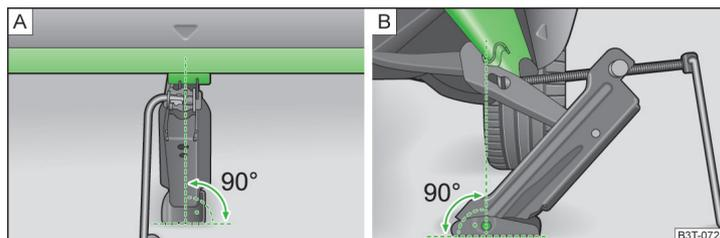

Fig. 143 **Attach lifting jack**
- Offer the jack up so that its claw encloses the web » Fig. 143 - **B**.
- Support the base plate of the jack with its full area resting on level ground and ensure that the jack is located in a vertical position at the point where the claw encloses the web » Fig. 143 - A.